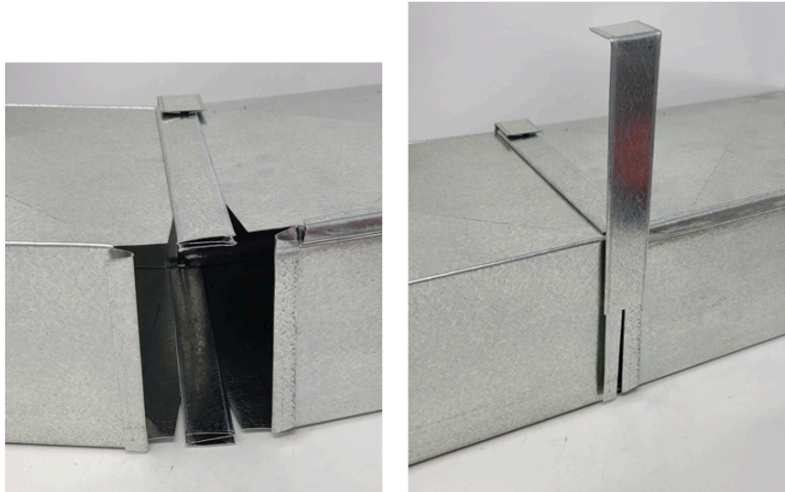

Figure 17. Assembling Slip & Drive Duct
You can see in Figure 17 the S-Cleats are used to connect the long side of the duct with the raw edges overlapped and slipped into the cleats. The drive cleats are used to pull together the two sections by hammering the Drive Cleat onto the two mated hemmed edges. Notice the Drive cleat has been cut to the approximate length and one end has already been bent over.
- Figure 17. “Assembling Slip & Drive Duct” by Camosun College is licensed under a CC BY-NC-SA licence (<https://creativecommons.org/licenses/by-nc-sa/4.0/deed.en>).